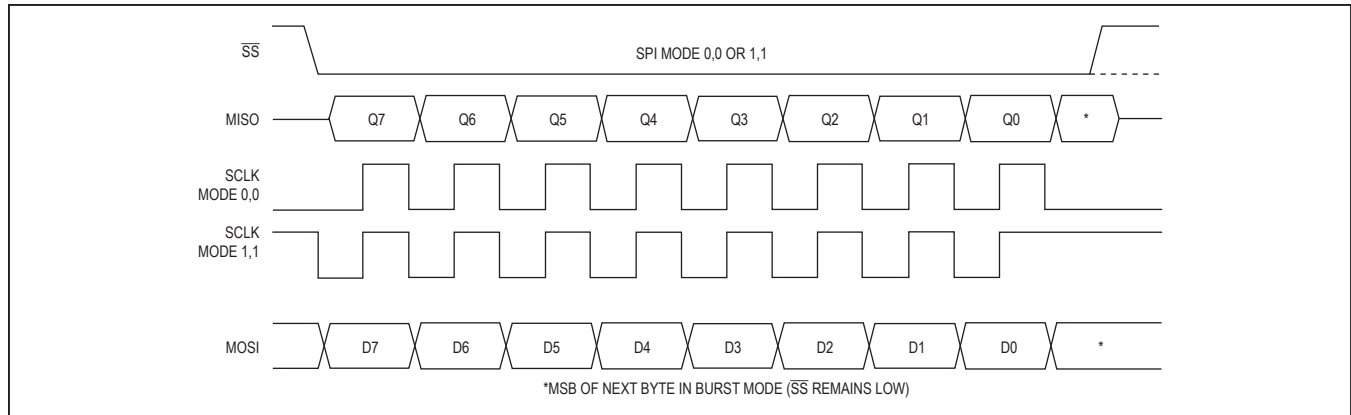

Figure 14. SPI Clocking Modes
The SPI master provides the MAX3420E SCLK signal to clock the SPI interface. SCLK has no low-frequency limit, and can be as high as 26MHz. The MAX3420E changes its output data (MISO) on the falling edge of SCLK and samples input data (MOSI) on the rising edge of SCLK. The MAX3420E ignores SCLK transitions when \overline{SS} is high. The inactive level of SCLK may be low or high, depending on the SPI operating mode (Figure 14).
The MAX3420E SPI interface operates without adjustment in either SPI mode (CPOL = 0, CPHA = 0) or (CPOL = 1, CPHA = 1). No mode bit is required to select between the two modes since the interface uses the rising edge of the clock in both modes. The two clocking modes are illustrated in Figure 14. Note that the inactive SCLK value is different for the two modes. Figure 14 illustrates the full-duplex mode, where data is simultaneously clocked into and out of the MAX3420E.
- (1) When \overline{SS} is high, the MAX3420E is unselected and three-states the MISO output.
- (2) After driving SCLK to its inactive state, the SPI master selects the MAX3420E by driving \overline{SS} low. The MAX3420E turns on its MISO output buffer and places the first data bit (Q7) on the MISO output (Figure 14).
- (3) The SPI master simultaneously clocks the command byte into the MAX3420E MOSI pin, and USB status bits out of the MAX3420E MISO pin on the rising edges of the SCLK it supplies. The MAX3420E changes its MISO output data on the falling-edges of SCLK.
- (4) After eight clock cycles, the master can drive \overline{SS} high to deselect the MAX3420E, causing it to three-state its MISO output. The falling edge of the clock puts the MSB of the next data byte in the sequence on the MISO output (Figure 14).
- (5) By keeping \overline{SS} low, the master clocks register data bytes out of the MAX3420E by continuing to supply SCLK pulses (burst mode). The master terminates the transfer by driving \overline{SS} high. The master must ensure that SCLK is in its inactive state at the beginning of the next access (when it drives \overline{SS} low). In full-duplex mode, the MAX3420E ignores data on MOSI while clocking data out on MISO.